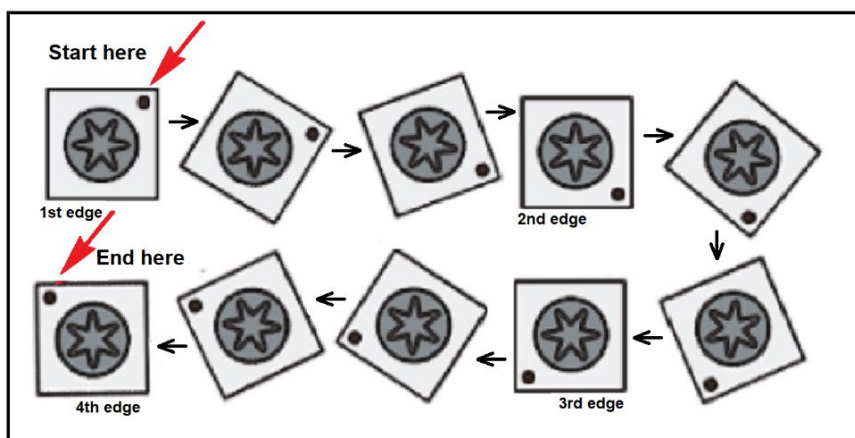

Fig 19
- 4 Turn the insert 90 degrees clockwise or insert a new carbide insert at the "start" position (Fig 19). Place the screw in the hole, turn the screw downwards with your finger.